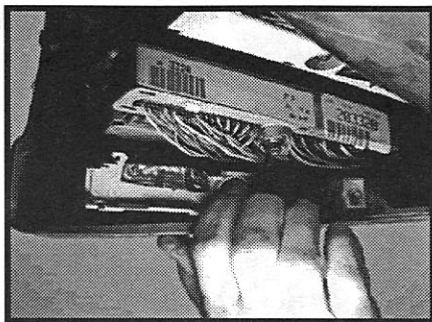

Fig. 10
9. To reinstall the ECU protective cover you will need to remove the factory wiring harness plastic cover, push the clips in and remove it to expose the wires. This is for clearance reasons and has no effect on the wiring (see Fig. 10).